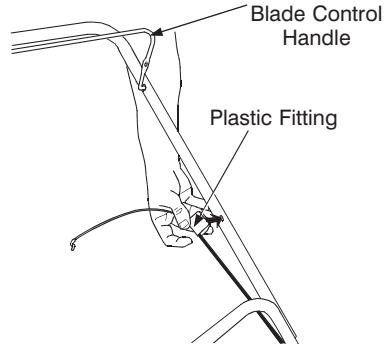

Figure 3
- The brake cable is attached to the engine, and has a "Z" fitting on the loose end. Route the brake cable over the lower handle. Snap the plastic fitting into the hole on the **inside** of the upper handle as shown in Figure 3.